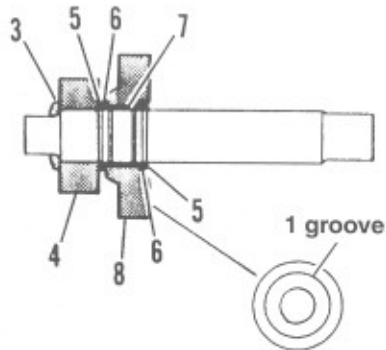

Figure 6-38.
6. See Figure 6-38. Install retaining ring (5). Position retaining ring in the second ring groove from the end with internal threads. Install thrust washer (6) next to retaining ring. Install split bearing (7) in seat next to washer (6).
7. Locate countershaft first gear (8). Gear (8) has a ring groove at one side of the gear. Install gear (8) over split bearing (7).
8. Install thrust washer (6) and retaining ring (5) next to gear (8).
9. Locate countershaft 4th gear (4). This gear is splined and has a single radial groove at one side. Position gear next to snap ring (5). Place beveled washer (3) over end of shaft with beveled side away from gear (4).